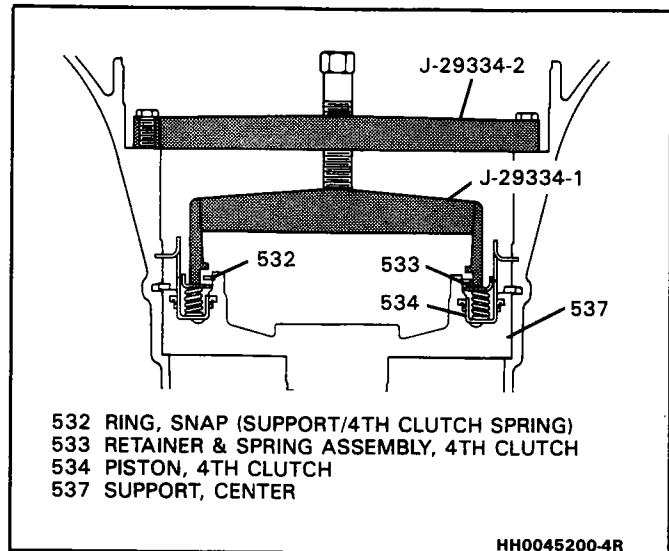

Figure 21 Fourth Clutch Piston Removal
**↔ Remove or Disconnect (Figure 21)**